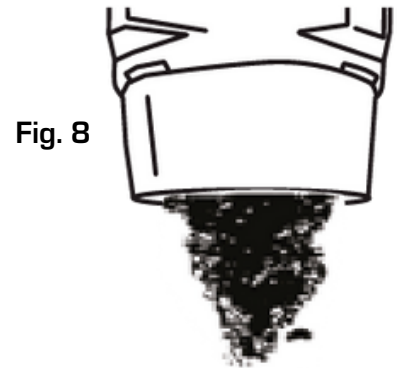

Fig. 8
5. Dump tank contents into a waste container. (Fig. 8)